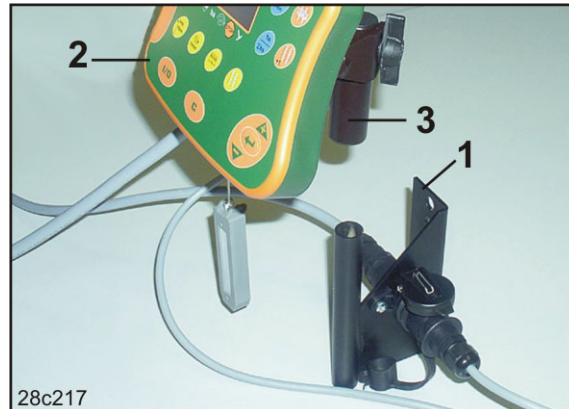

Fig. 11
1. Screw the bracket (Fig. 11/1) so that is free from vibrations and electrically connected to the right of the driver's position in the tractor cab, within visual range and easy to access (Fig. 11/2).
2. Equip the control terminal with the counterpart (Fig. 11/3).